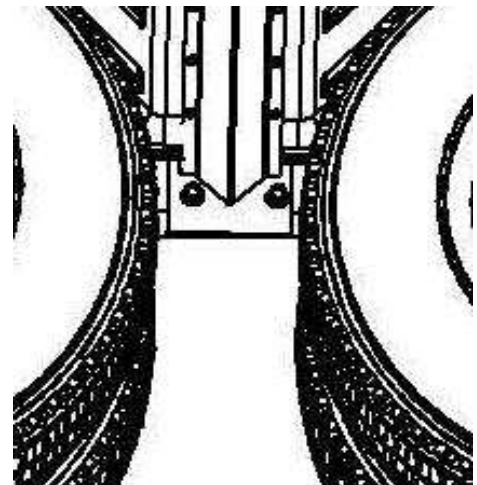

Figure 12
- A. The center bracket PB2011 will be attached to the truck frame. It is possible to bolt a plate (not supplied) to the frame and weld the brackets to that plate (Figure 12). Another option is to weld the bracket directly to the frame.